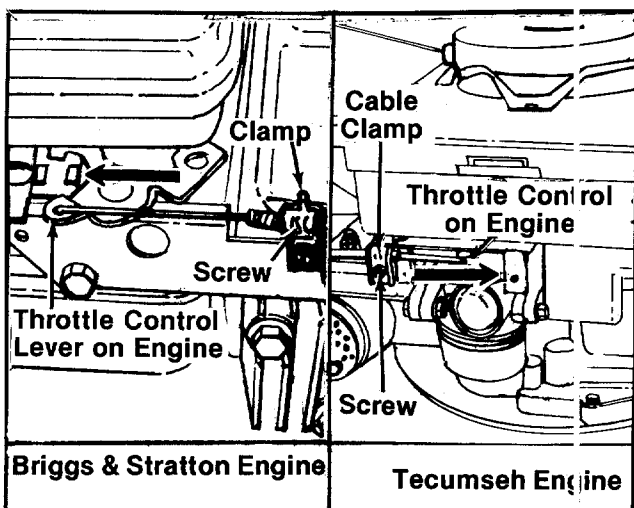

FIGURE 9.
12. Push the throttle control lever on the engine to the full open position (as far toward the outside of the unit as it will go on Briggs and Stratton engines and as far toward the front of the unit as it will go on Tecumseh engines) as shown in figure 9.
14. Remove the screw on the cable clamp shown in figure 9. Slip the control casing under the clamp. With the throttle lever on the engine still in the full open position, replace and tighten the screw to secure the throttle control cable.
1. Loosen, but do not remove, screw securing throttle control wire assembly at engine. See figure 9.